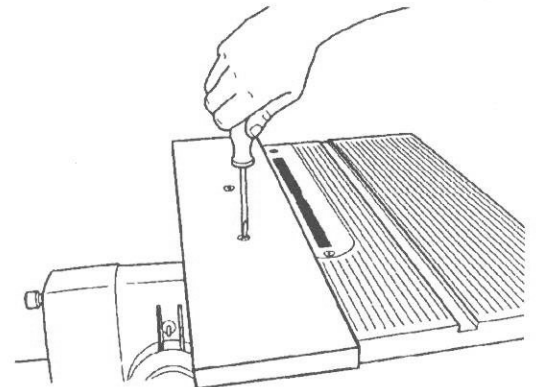

Fig. 5
5. Use the medium screwdriver to tighten the slotted nuts, as shown in Fig. 5. Be careful not to overtighten.